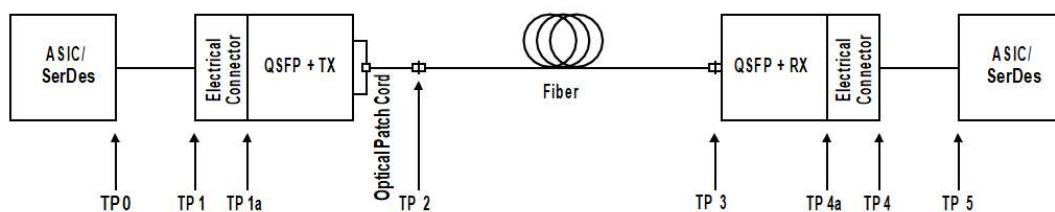

Figure 1. Test point definitions
*See Figure 1 for Test Point definitions.
* See Figure 1 for Test Point definitions.